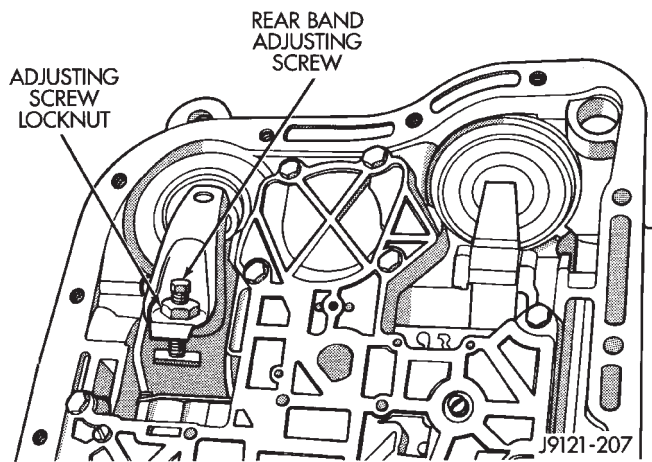

Fig. 8 Rear Band Adjustment Screw Location
(3) Loosen band adjusting screw locknut 5-6 turns. Be sure adjusting screw turns freely in lever. Lubricate screw threads if necessary.
(4) Tighten adjusting screw to 8 N•m (72 in. lbs.) torque (Fig. 8). Use inch-pound Torque Wrench C-3380-A for adjustment.
(5) Back off band adjusting screw 2 turns.